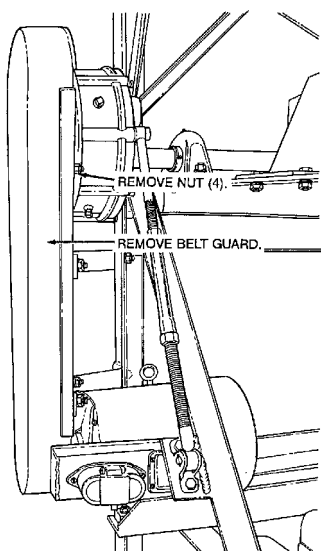

Figure 57. Feeder drive belt guard removal.
Adjust the feeder drive belts (figs. 57 and 58).
- Remove the belt guard on the rotary elevator in the same manner as the feeder belt guard (fig. 57).
- Install the rotary elevator drive belt guard in the same manner as the feeder drive belt guard (fig. 57).